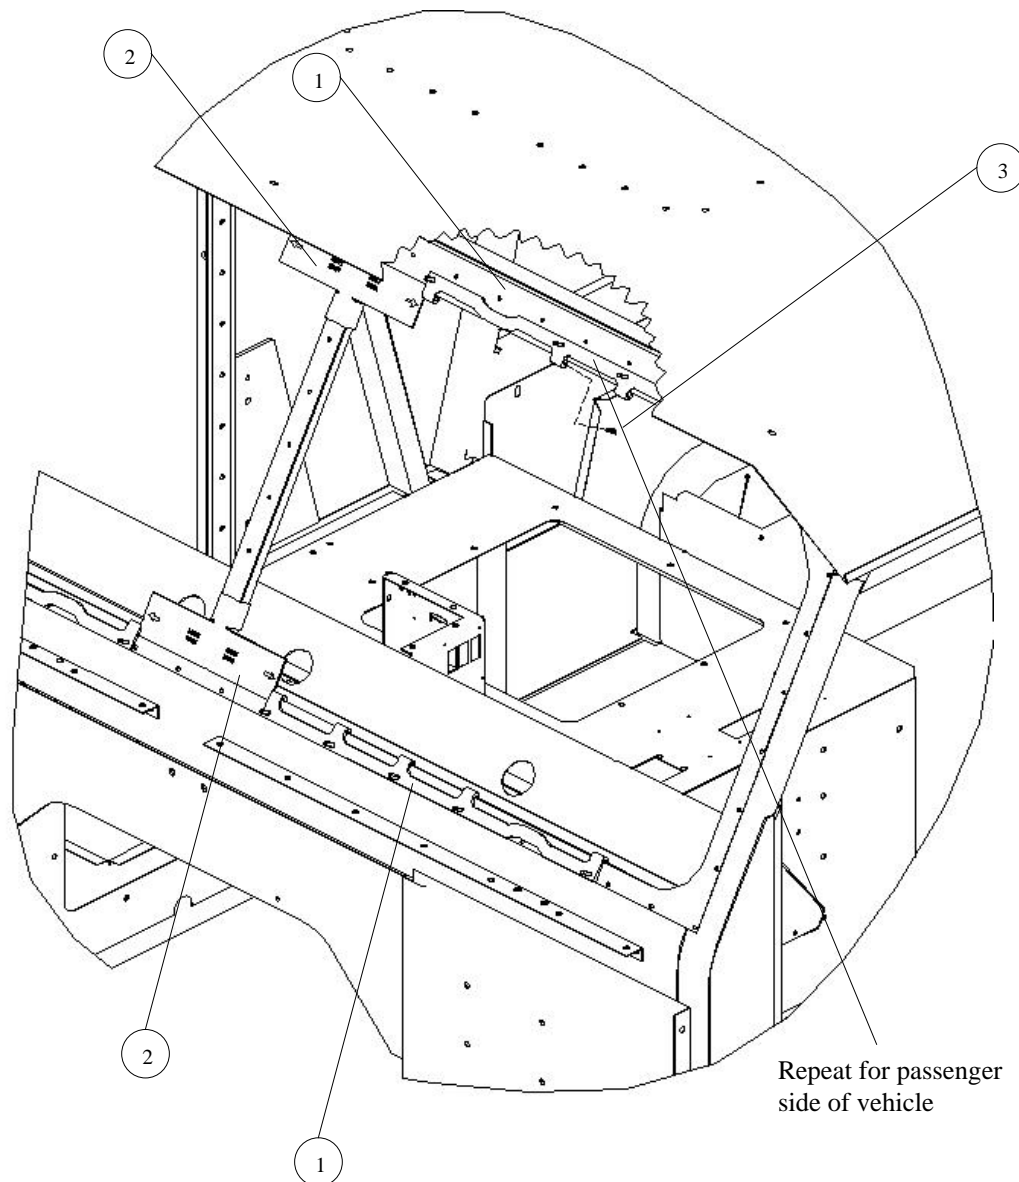

Figure 3-4. Upper and Lower Windshield Brackets Installation.
3. Install upper and lower windshield brackets as follows (see Figure 3-4):
- a. Locate four windshield brackets (1) against upper and lower edges of cab windshield opening using template (2).
- b. Secure upper windshield brackets (1) to cab at locations determined by template (2) by tightening five setscrews (3) in each bracket (1). Add Loctite to threads.
- c. Secure lower windshield brackets (1) to cab at locations determined by template (2) by finger-tightening five setscrews (3) in each bracket (1).